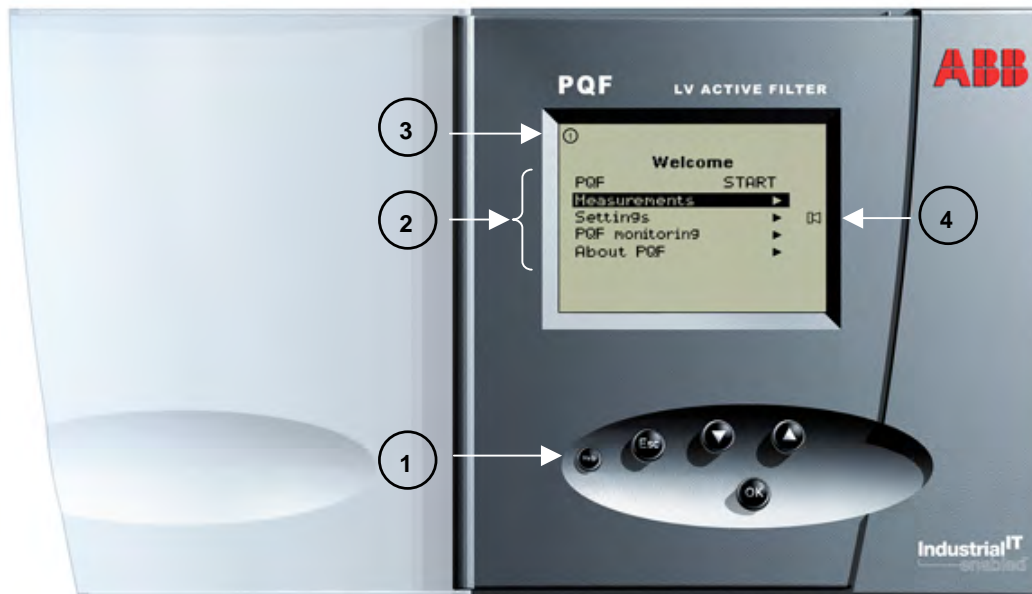

Figure 8.1. Front view of the PQF-Manager user interface
This chapter presents the features and operating instructions for the PQF-Manager user interface (Figure 8.1.). Use the contents of this chapter as background information for the next chapters which explain how to commission, operate and troubleshoot the active filter and how to set up the Modbus communication interface.
All user inter-action with the filter is channeled through the PQF-Manager. It provides for the following main functions (Cf. Figure 8.1.):
- A digital output contact monitor located at the top of the screen (Cf. Figure 8.1. item 3). When the PQF-Manager closes one of its six digital output relays (Cf. Chapter 7) the corresponding symbol lights up. When the relay considered opens again, the symbol disappears.
- An indicator showing when the PQF-Manager's alarm contact has been activated (Cf. Figure 8.1. item 4) For the conditions under which the alarm contact is switched on, refer to Table 7.14. When the alarm condition has disappeared, the indicator switches off.
In order to navigate through the menus of the PQF-Manager, the keypad (Cf. Figure 8.1. item 1) has to be used. The starting point for the navigation after a power up is the 'Welcome' screen. The item selected is highlighted (e.g. the 'Measurements' menu in Figure 8.1.). The keypad and its basic functions are shown in Figure 8.3.